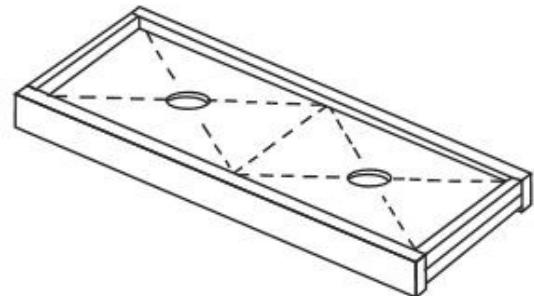

Fig. 1.
2. Divide the header in half and draw a line dividing the header into two equal parts. To find the center of each section draw an X diagonally from each corner to the center line as shown. Using a hole saw or a jig saw cut two 2 3/8" dia. holes through the header for the LED lights. This will be the placement holes for the lights. Fig. 1.